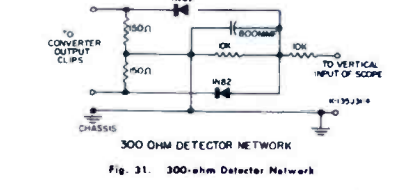

Fig. 31. 300-ohm Detector Network
- 300-ohm attenuator pad and 300-ohm detector network, see Figs. 31 and 32.